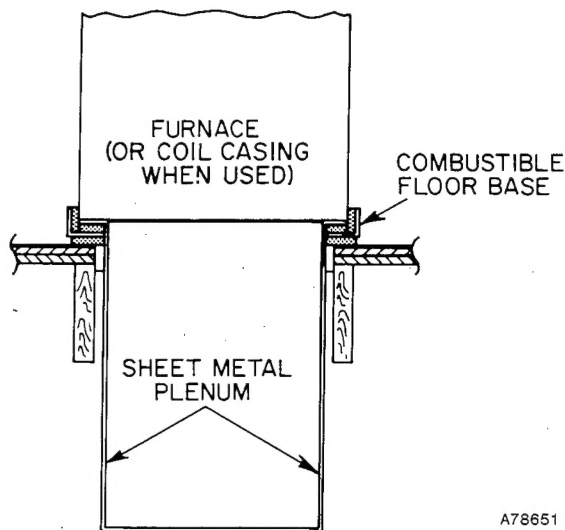

Figure 7—Furnace, Plenum, and Base Installed on a Combustible Floor
4. When completed, combustible floor base, plenum, and furnace (or coil casing when used) should be installed as shown in Figure 7.